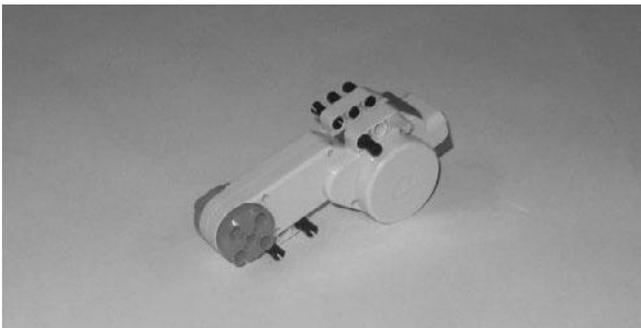

Figure 9.11
Step 2—Connect one connector peg with friction and cross axles and six connector pegs with friction to one of the robot’s servo motors as shown in Figure 9.11.